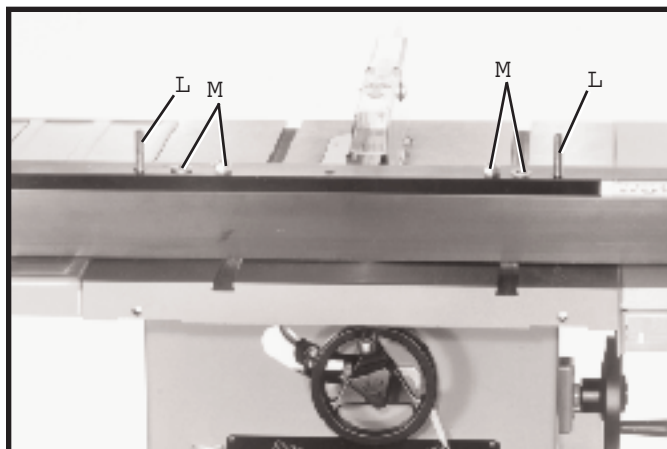

Fig. 31
18. Assemble the guide rail to the saw table by inserting two studs (L) Fig. 31, into the two matching holes in the front edge of the table and fasten using two flat washers and hex nuts (M). Only snug up two hex nuts (M), at this time.